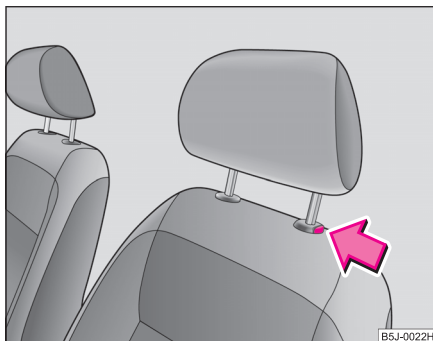

Fig. 51 Removing a head restraint
- Move the head restraint downwards if required by pressing the locking button ⇒ page 71, fig. 51 and by pressing with the other hand the head restraint downwards.
- Press the locking button in the direction of arrow ⇒ page 71, fig. 51 and pull the head restraint out.